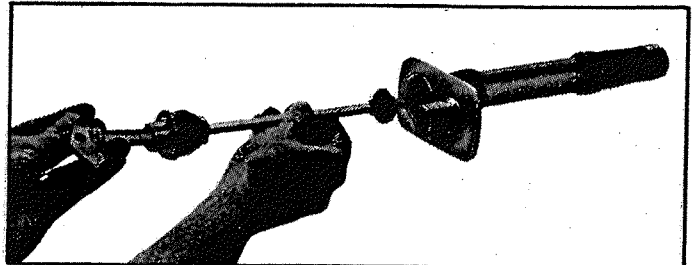

FIGURE 4
B. Use pliers. Firmly grip Cap Retainer (8) and turn counterclockwise to remove it, then remove Deflector Cap (7). Shut off hydrant as tight as possible with Control Key (1) and use an adjustable open-end wrench or channel-lock type pliers to "break" Draw Nut (11) loose, then remove it with Control Key (1), turning counterclockwise until threads are free from Hydrant Head (12). Grasp Draw Nut (11) firmly and pull toward you to remove Actuator (2) and Actuator Rod (3). A vacuum is created between Shuttle (4) and backflow preventer Valve (10) making a firm grip and pull necessary to accomplish this step. Some agitation while pulling will be helpful. See Figure 4.